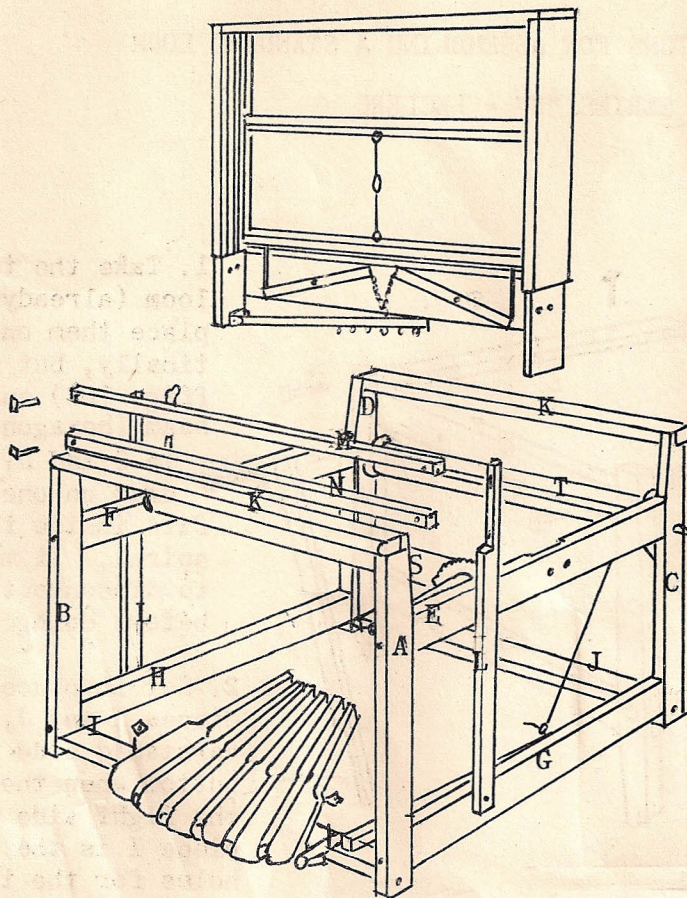

Fig. 103-N
7. Place the head of the loom in the mortise of part E & F (fig. 103-N). Use 1/4" bolts - the heads on the outside of the loom.
8. Put the slabstock and the breast beam (K) on the front and back uprights (A,B,C,D) with the rounded side outwards. They are held in place by the steel studs only, and they can be removed whenever necessary. When taking them off the loom lift both ends at the same time.
9. Mount the batten (beater). First take the lower piece N (the one without rubber pads) and attach it to the swords with two 5/16" bolts with plain nuts. The groove in the piece must be on top (fig. 103-N). Then comes the cape "M" - groove downwards. The bolts with wing nuts are passed first through the holes in the cape and then through the slots in the swords. Now tighten the bolts, with the cape in its lowest position, and check if both rubber pads touch the loom frame. If not, loosen slightly the bolts, and force the batten into proper position by pushing one sword and pulling the other at the same time. Tighten the bolts and check again.